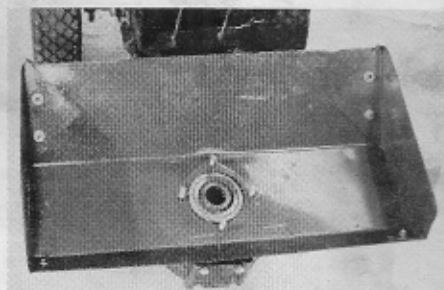

Figure 30
4. Fit the Hood as shown in Figure 30. Insert the Cultivator Drive Shaft into the Gear Housing.